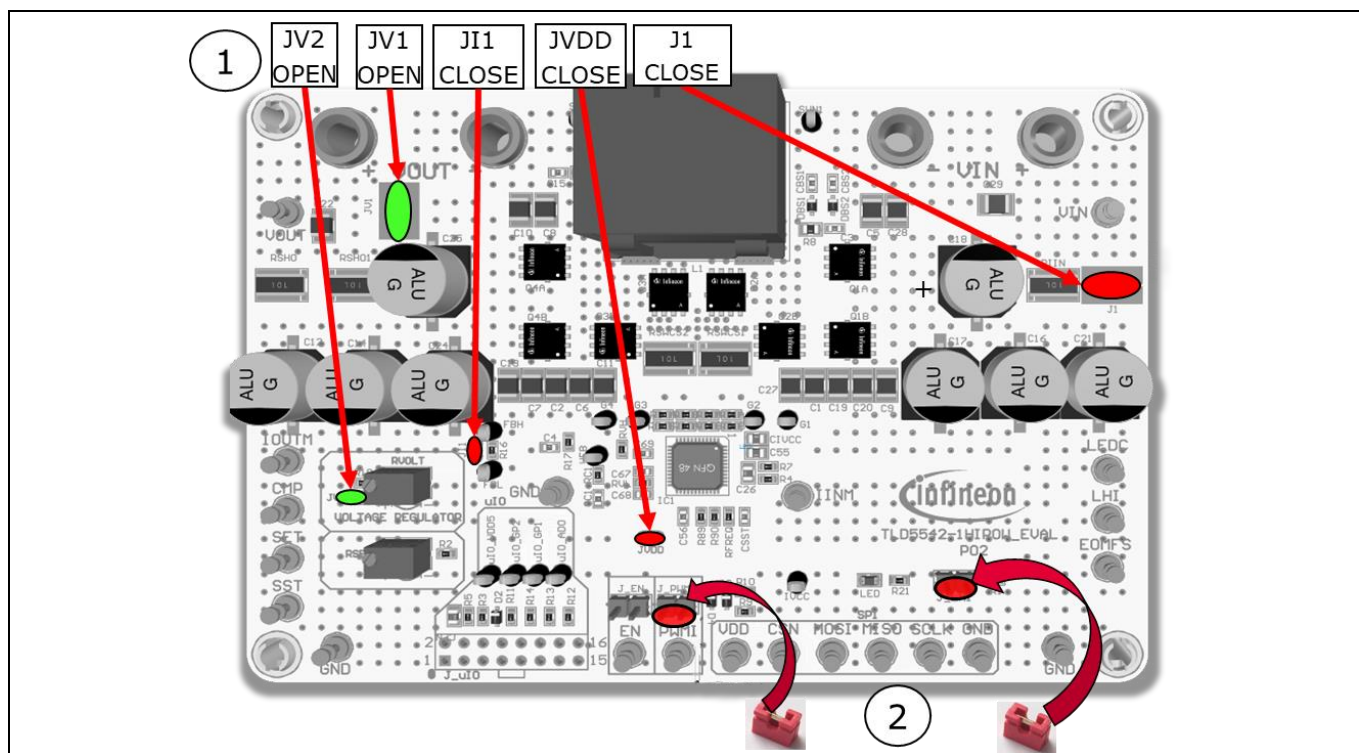

Figure 4 Jumpers to be set for current regulator mode no μC
1. Configure solder jumper for LED driver configuration as in Figure 4